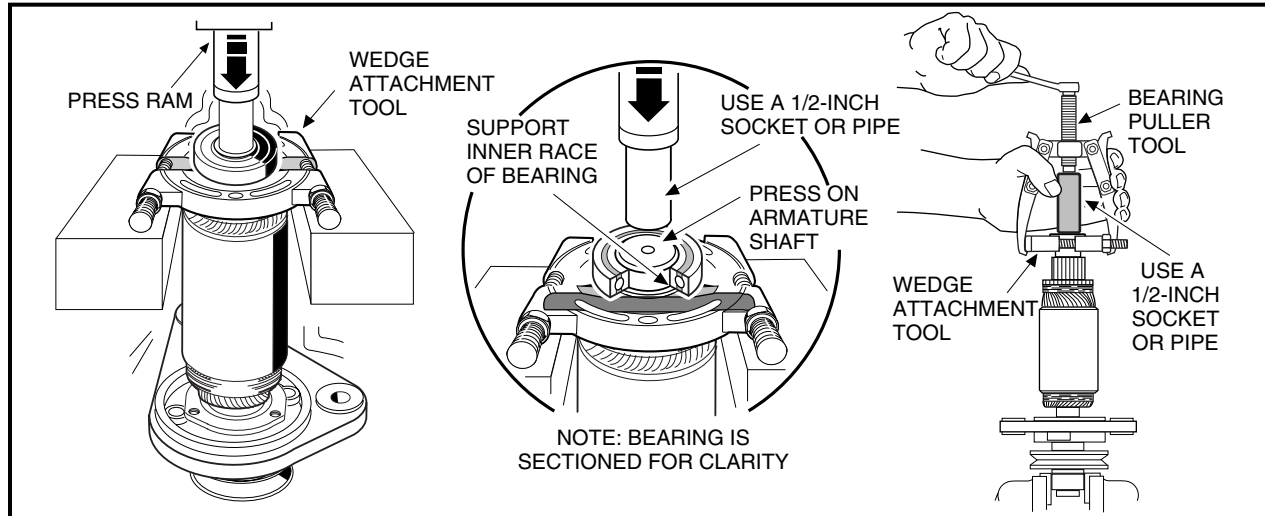

Figure 12-10 Bearing Removal
1. Place the wedge attachment tool (CCI P/N 1012812) between the bearing and the armature. Make sure the wedge attachment tool is supporting the inner race of the bearing. If a press is not available, secure a bearing puller (CCI P/N 1012811) to the wedge attachment tool and pull the bearing off of the end of the armature shaft. Support the armature so that it will not drop when the bearing is removed (Figure 12-10, Page 12-6).